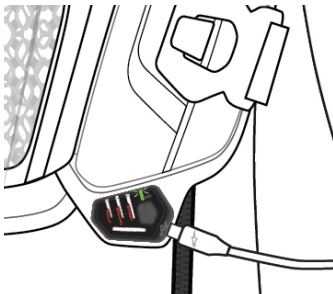

Figure 15: Battery LED (4e) blinking during System recharge (see more LED colour indications in “LED Indications Summary” Section 8)
The Tech-Air® Off-Road System is supplied with a Type C Charging Cable (12). To charge the System, the User must connect the supplied standard Type C USB Charging Cable (12) to the Type C USB Recharge Port (4b) present on the LED Display (4). Once on charge, the LED Display (4) will show different blinking colours in the Battery LED (4e) (Figure 15), according to the description provided in "LED Indications Summary" (see Section 8). Fully charge the System before its first use.